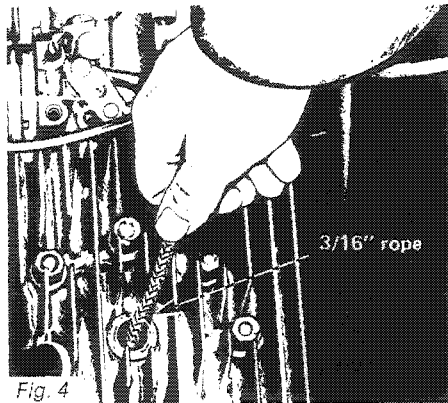

Fig. 4
- Accede by the spark plug hole and pack the P.T.O. cylinder with $\frac{3}{16}$ " dia. rope (See Fig. 4).